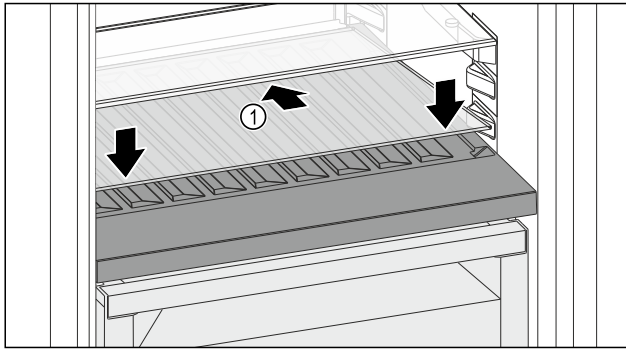

Fig. 91
- Place the glass shelf Fig. 91 (1) at an angle, sloping it downwards and backwards.
- Lower the glass shelf Fig. 91 (1) at the front.